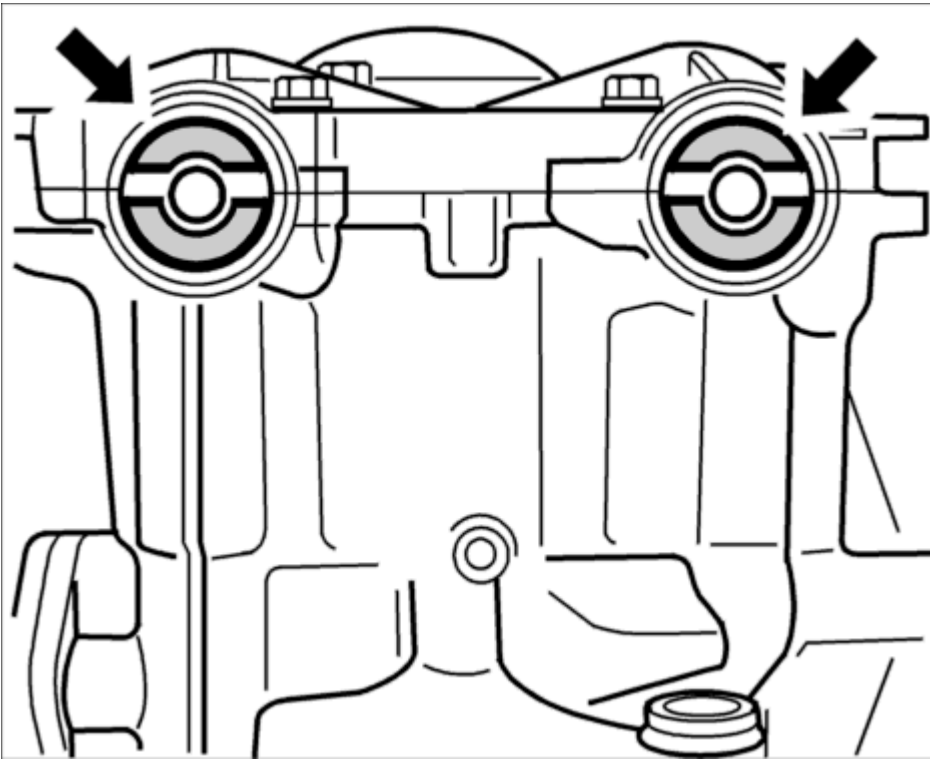

Fig. 19: Position of the camshafts in overlapping TDC of cylinders 1 or 4
3. If the camshafts of cylinder bank 1 - 3 are removed, the smaller circular cut-outs at the grooves of the inlet and outlet camshafts **-arrows-** of **cylinder 1** must point to the cylinder head cover. For cylinder bank 4 - 6 the corresponding position is then on **cylinder 4** . Check the position using the **adjusting gauge P 9686**. See **Fig. 19**.